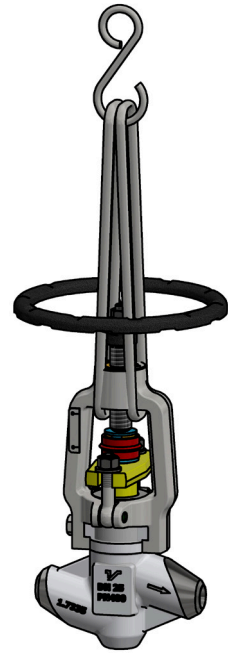

Figure B.16
- If possible, lift VHP & VHP-NTRS via bonnet (Figure B.16).